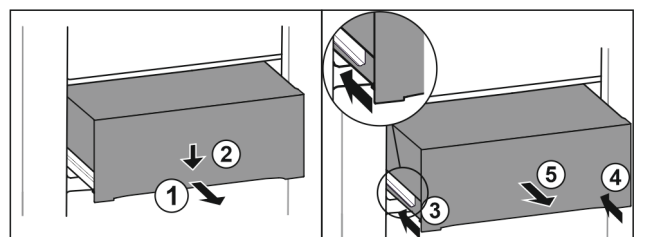

Fig. 151
- ▶ Pull out drawer half-way. *Fig. 151 (1)*
- ▶ Push the drawer down at the front. *Fig. 151 (2)*
- ▶ Push the left rail in by about 2 cm. *Fig. 151 (3)*
- ▶ Push the right rail in by about 2 cm. *Fig. 151 (4)*
- ▶ Remove drawer to the front. *Fig. 151 (5)*